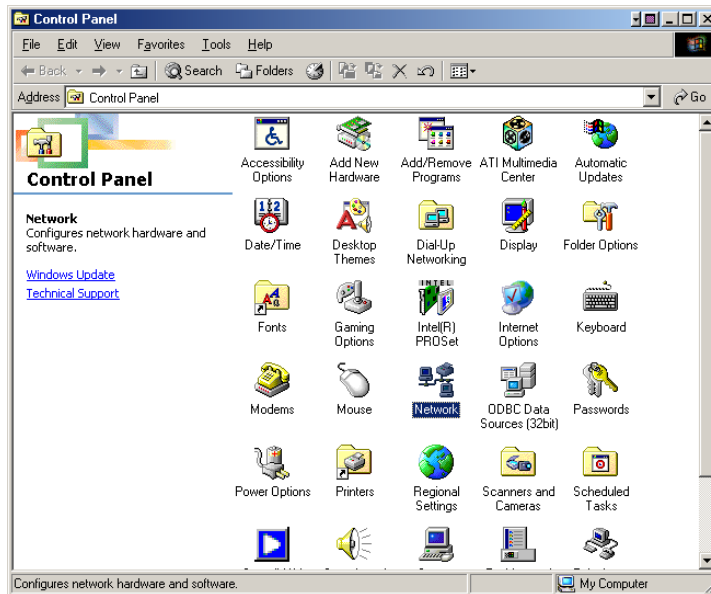

Figure 91: Control Panel
1. On the client computer, go to *Start*→*Settings*→*Control Panel* and double-click **Network**. See Figure 91.